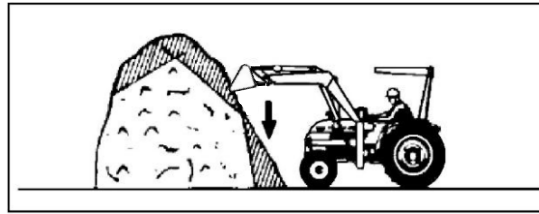

Fig 4.11.Break /cut big piles.
- If the pile sides are too high and liable to cause cave-in, Use the loader to break down the sides until a slot can be cut over the top shown in figure 4.11.